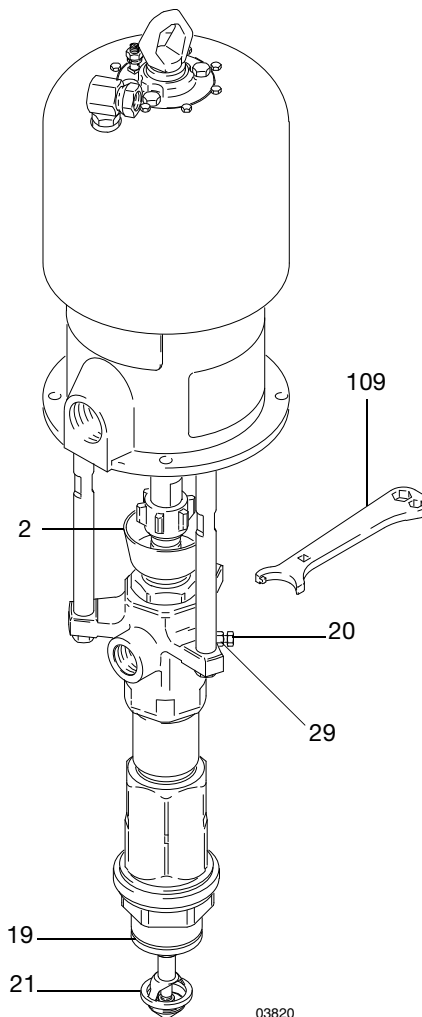

FIG. 3
- If the pump fails to prime properly, open the bleeder valve plug (20) slightly. Use the bleed hole, on the underside of the valve body (29), as a priming valve until the fluid appears at the hole. See FIG. 3, page 8. Close the plug.